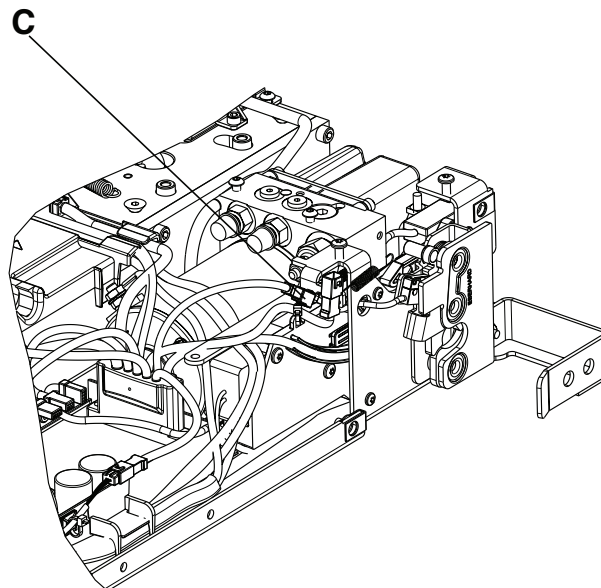

Figure 18 – Main cable assembly
3. Unplug the cable (C) from the trolley actuator to the main cable assembly (Figure 18).